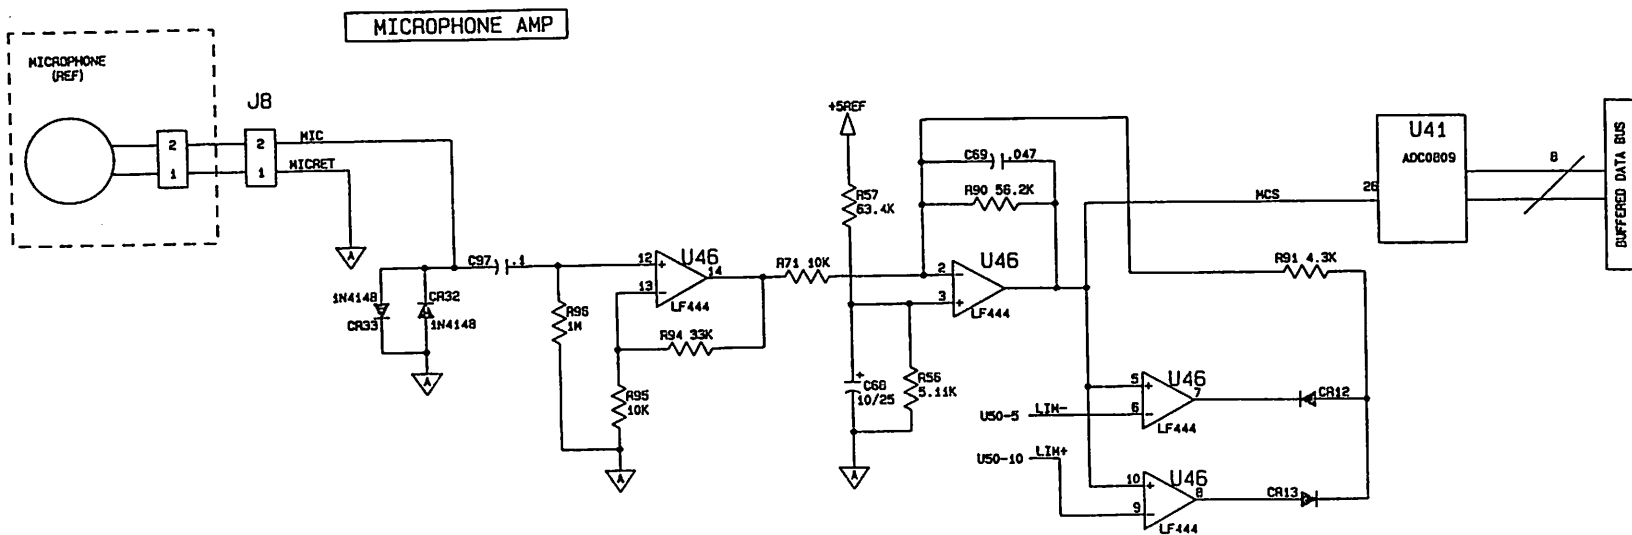

Figure 3-15. Microphone Channel
3.5.5 Data Acquisition and Processing (figures 3-15 and 3-16)
c. Microphone Channel (figure 3-15)